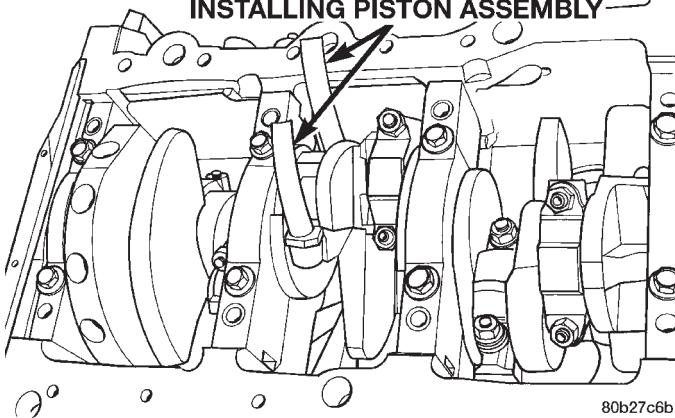

Fig. 94 Connecting Rod Guides and Crankshaft Protectors
(3) Remove connecting rod cap. Install protectors on connecting rod bolts (Fig. 94). Push each piston and rod assembly out of cylinder bore.
(5) Install connecting rod bolt protectors on rod bolts (Fig. 94).
(6) Rotate crankshaft so that the connecting rod journal is on the center of the cylinder bore. Insert rod and piston into cylinder bore and guide rod over the crankshaft journal.